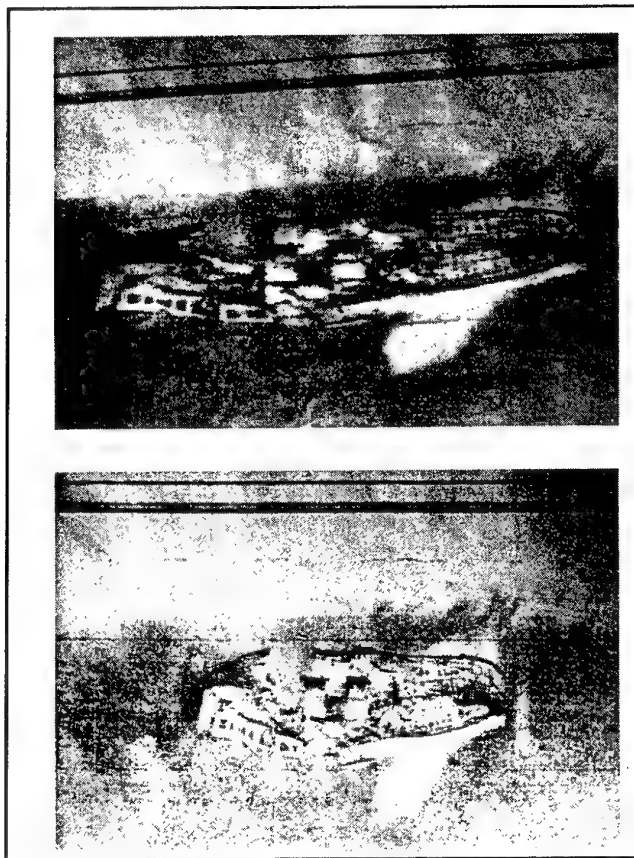

Figure 6 Two waterfall displays of a sunken ship collected at three knots (top image) and six knots (bottom image). Adapted from Klein (1985).
- A compression or stretching of an object in the along-track direction of the waterfall display is caused by the sonar ensonifying an object at differing speeds and the sonar then displaying the backscatter results at regular time intervals. The ramification of this compression is that it generates the artefact that targets appear larger or smaller than they really are. Figure 6 shows an example of such a scenario. This along-track compression is circumvented by displaying the backscatter results for each ping not at regular time intervals but at intervals which are directly proportional to the speed or distance the sonar has transversed.